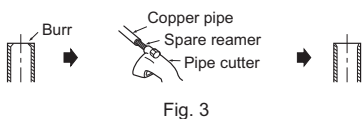

Fig. 3
- When connecting the drain hose to the hard vinyl chloride pipe, be sure to insert it securely into the pipe. (Fig. 3)
- 4) Put the drain cap into the section to which the drain hose is to be attached at the rear of the indoor unit. (Fig. 3)
- 2) Completely remove all burrs from the cut cross section of pipe. (Fig. 3)